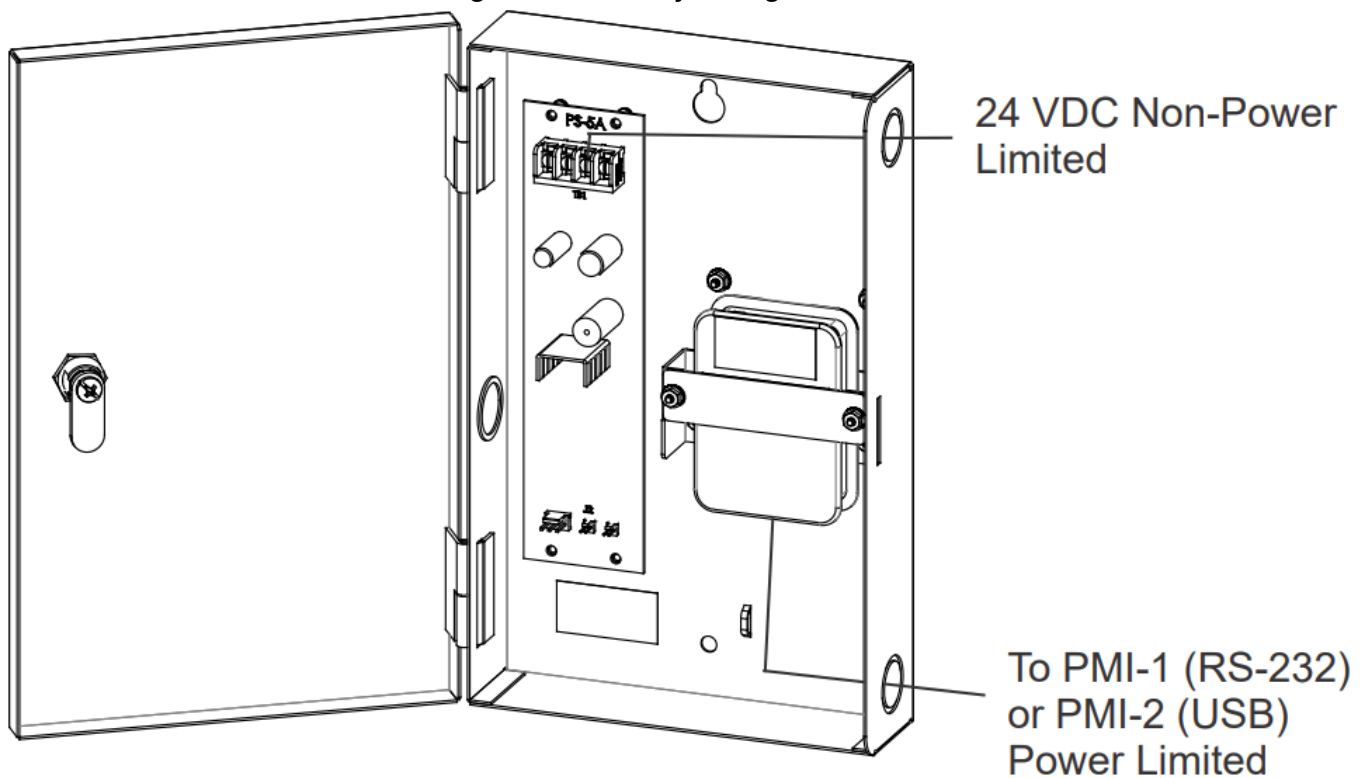

Figure 9 Power Limited Cable Routing
7. Refer to Figure 9 for routing of Power Limited and Non-Power Limited wiring.